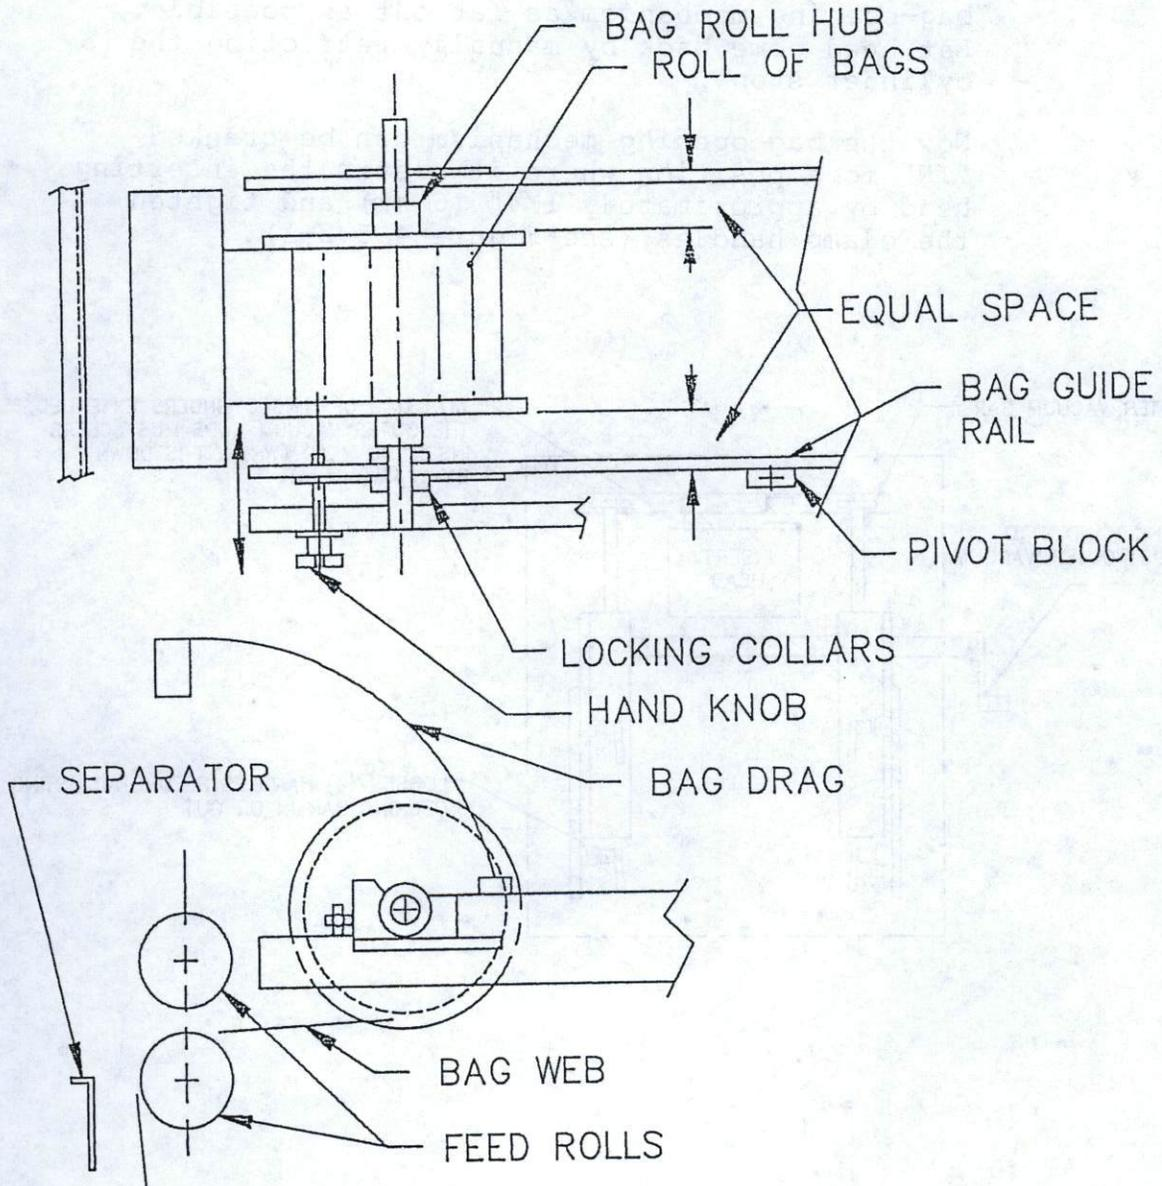

FIGURE 4.5.1-1
1. Place a roll of perforated and sealed poly bags on mandrel provided and set on bag roll mounts with end of bag roll coming off of bottom toward feed rolls first. Center roll of bags on machine by loosening bag roll hubs and moving bag roll to proper location (see Figure 4.5.1-1).
2. Lift upper feed roll into its latched position and manually thread the end of the bag roll through the feed rolls and down behind the bag separator. Unlatch feed roll (see Figure 4.5.1-1).
3. A hand knob is provided to change the location of the bag roll without changing the bag roll hubs (see Figure 4.5.1-1).
4. After roll is in position, be sure to reposition bag drag so it will not allow bags to roll forward (see Figure 4.5.1-1).